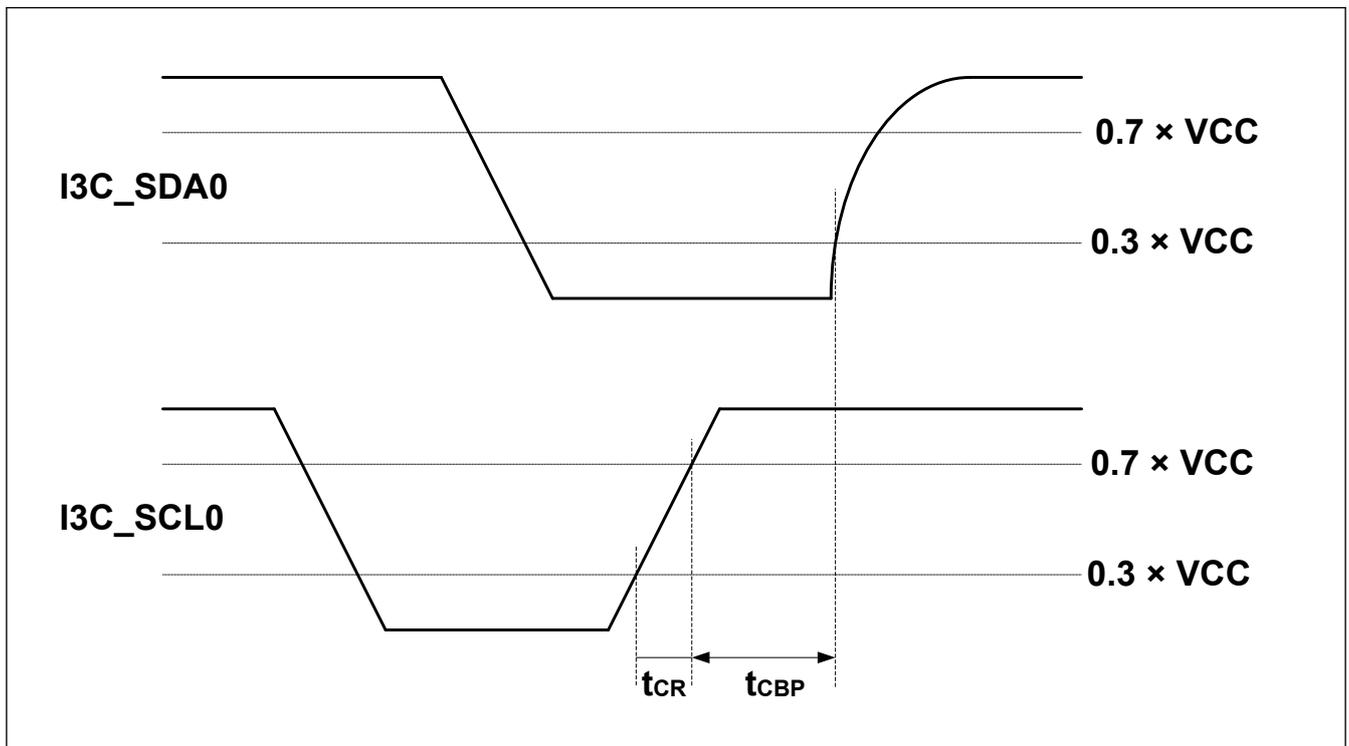

Figure 2.94 I3C STOP condition Timing
| Clock Before STOP (P) Condition | t_{CBP} | 3.00 V or above | $t_{CASmin} / 2$ | — | seconds | Figure 2.94 | |
- Note 2. In a Mixed Bus, HDR-TSL shall respect the maximum $t_{DIG_H_MIXED}$ shown in Figure 2.94.